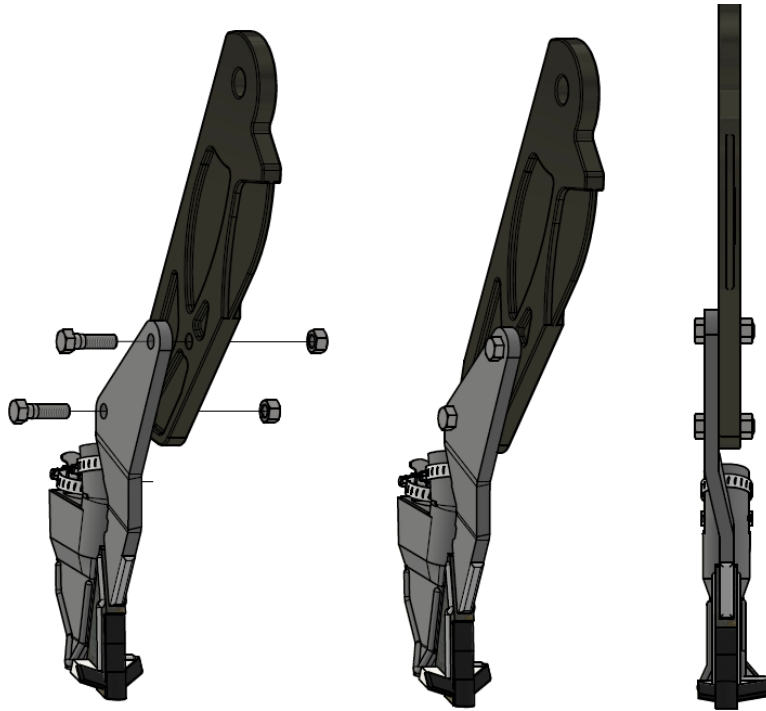

Figure 2: Bolt opener to shank
- 1) Bolt openers to shank using the supplied $\frac{1}{2}$ " x $1\frac{7}{8}$ " bolts and nuts. Install the openers with the stainless steel chute pointed to the center of the drill (see Figure 2). Once installed, the point will be centered underneath the shank.